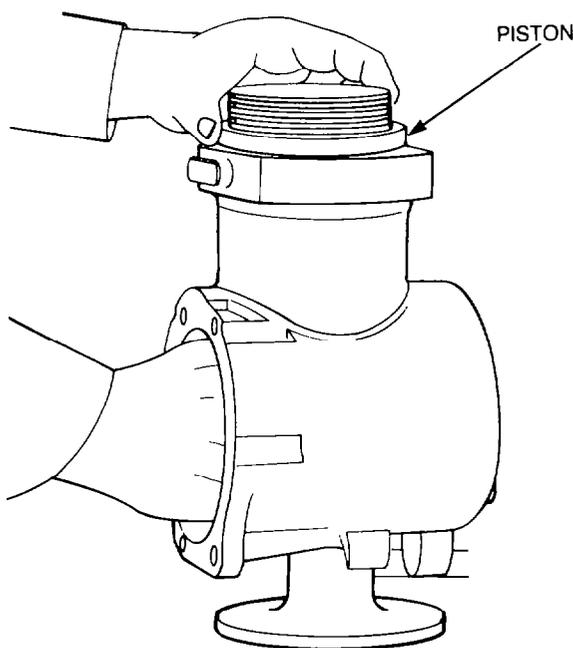

Figure 237 — Piston and Connecting Rod — Removal
- o. Remove the piston and the connecting rod assembly from the cylinder bore (see Fig. 237).